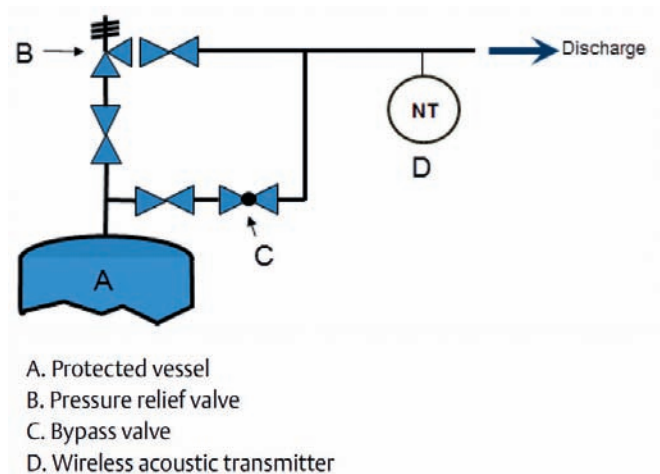

Figure 4: A wireless acoustic transmitter should be installed downstream, close to the valve.
Acoustic wireless transmitters should be installed downstream of the relief valve (RV), as close as possible to the valve. The wireless acoustic transmitter installed as indicated in Figure 4 monitors not only discharges or leakages of the relief valve, but can also monitor flow through the bypass valve.